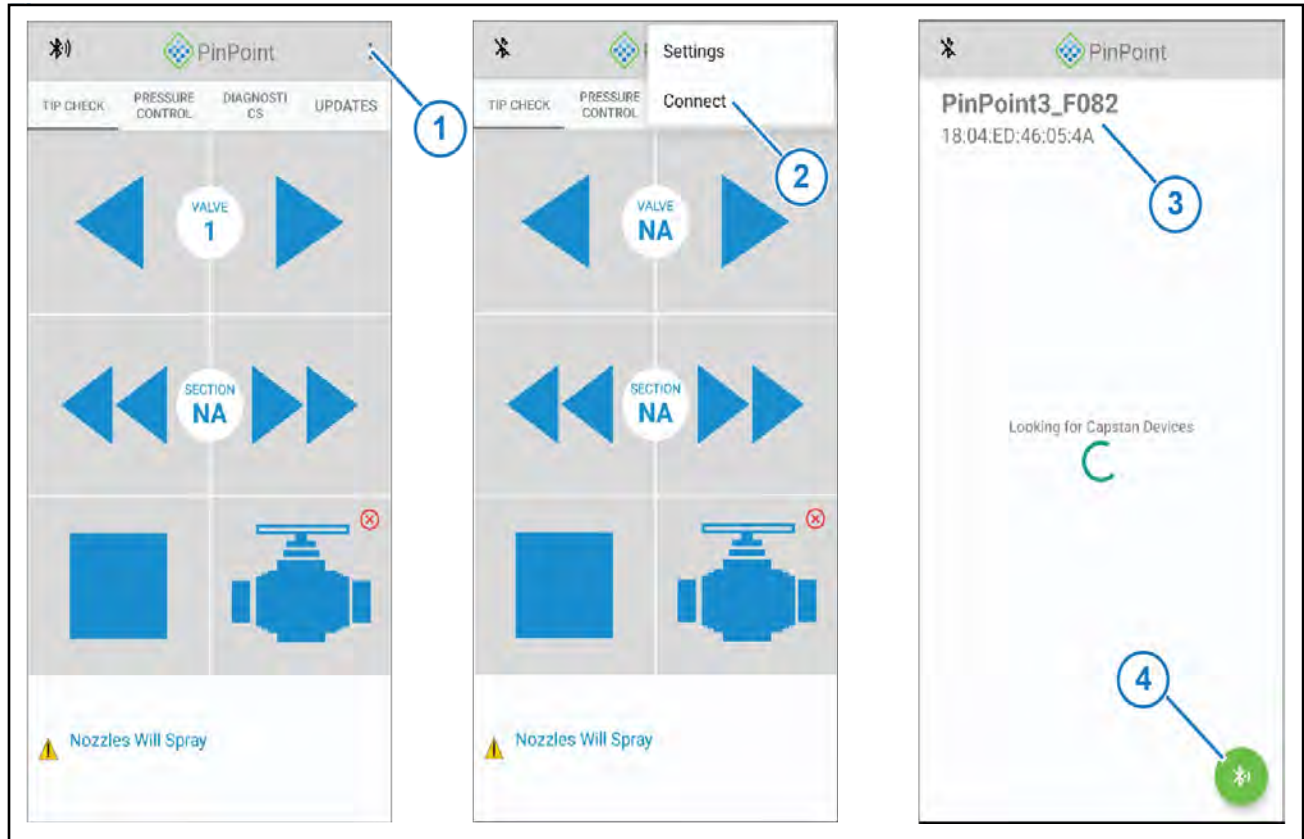

Figure 3: CapstanAG App Bluetooth Connection
1. Tap the menu icon (Figure 3, Item 1) at the upper right corner of the screen.
2. Tap Connect (Figure 3, Item 2).
3. Select the PinPoint III (Figure 3, Item 3) from the Capstan Devices list.
Note: If no Capstan device is found initially tap the Bluetooth icon (Figure 3, Item 4) to restart device search.